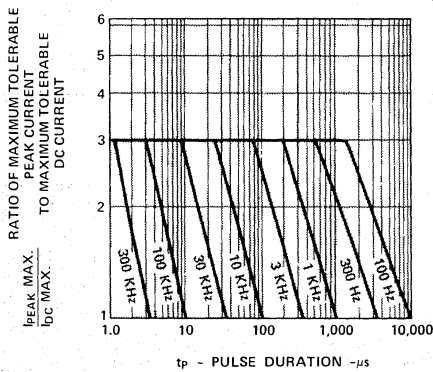

Figure 3. Maximum Tolerable Peak Current vs. Pulse Duration. (IDC MAX as per MAX Ratings.)
- Derate from  $T_A = 50^\circ\text{C}$  at 0.071 V/°C, see Figure 3.